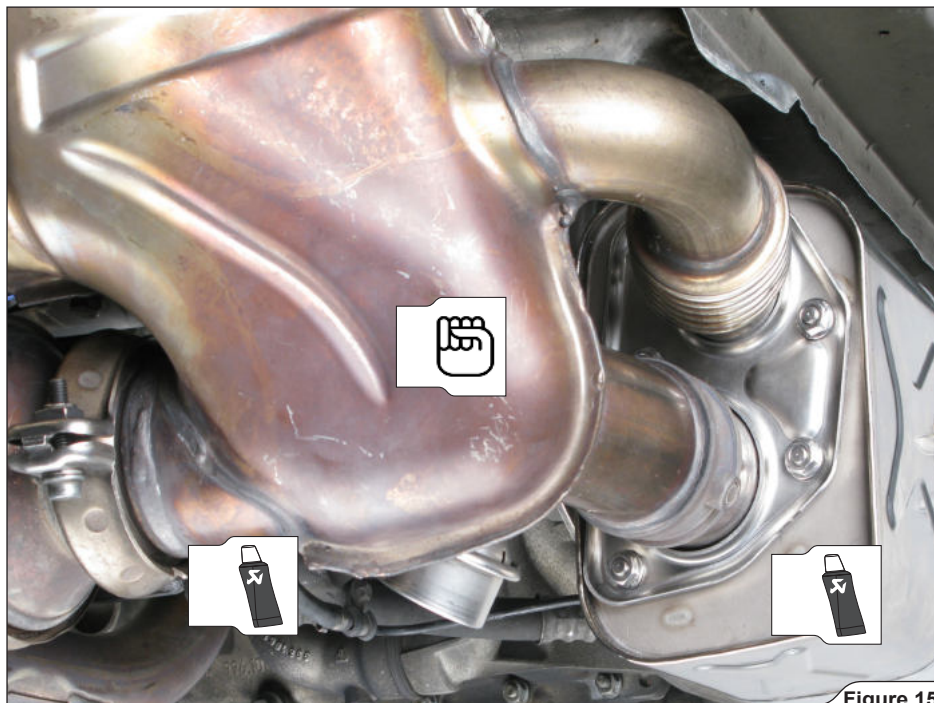

Figure 15
3. Install left side muffler and simultaneously insert side muffler pipes into the Akrapovič muffler's inlet. Hand tighten stock clamp, bracket bolts and nuts (**Figure 15**).